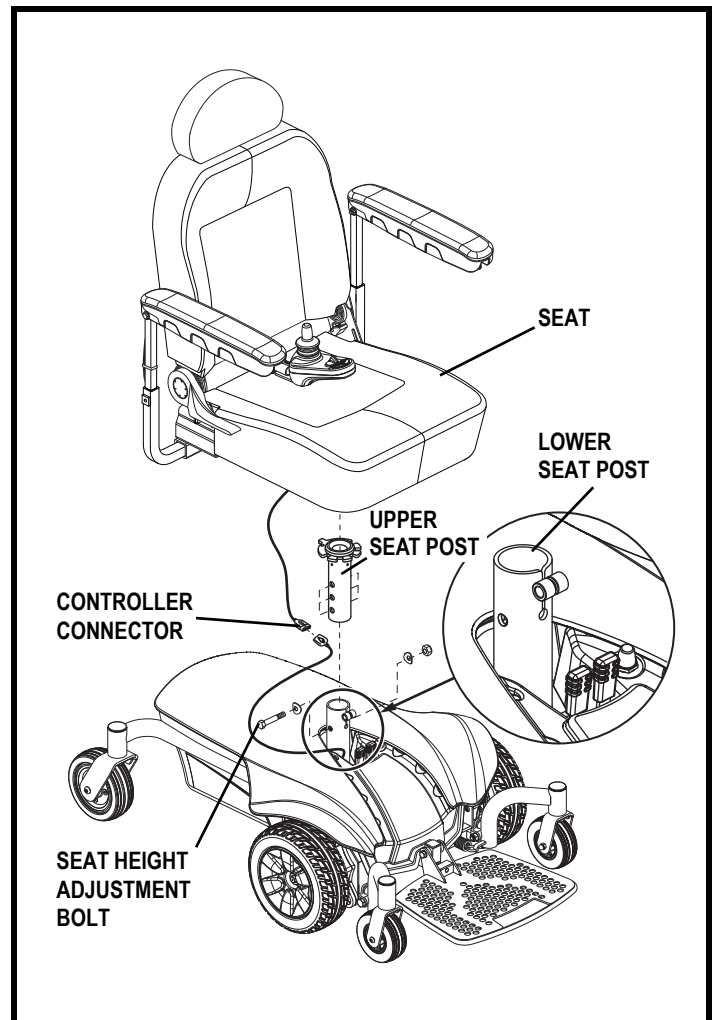

Figure 8. Seat Height Adjustment
3. Disconnect the controller connector from the power base. **See figure 8.**
4. Disengage the seat release lever. **See figure 8.**
5. Loosen the hardware at the front of the seat post. **See figure 8.**
6. Remove the seat height adjustment bolt, washers, and nuts from the seat post. **See figure 8.**